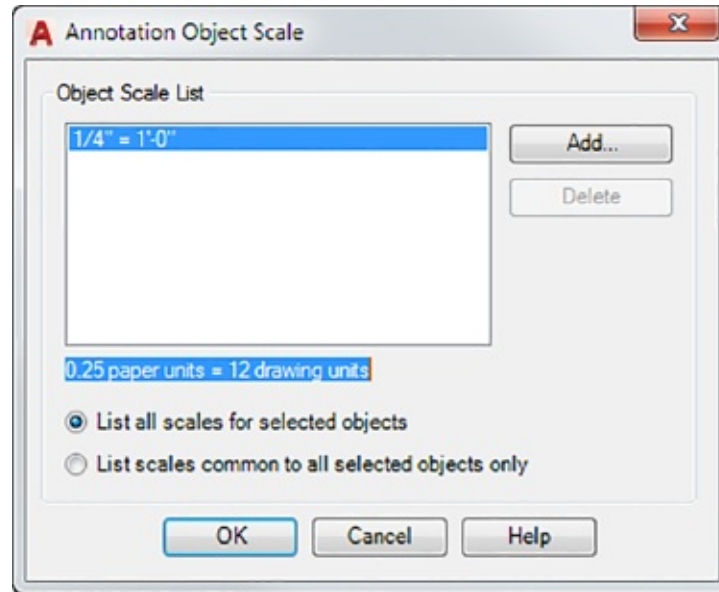

FIGURE 9.6 The Annotation Object Scale dialog box
4. At the Select annotative objects: prompt, select the text and press ↵. You see the Annotation Object Scale dialog box (see Figure 9.6) listing the annotation scales that you have used for this drawing.